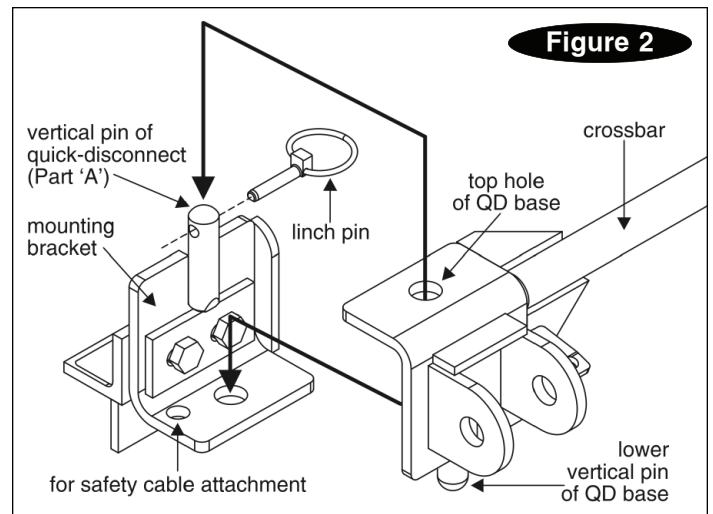

Figure 2
2. See Figure 2 – test-fit the QD crossbar – lower the QD crossbar over the quick-disconnects. The vertical pins